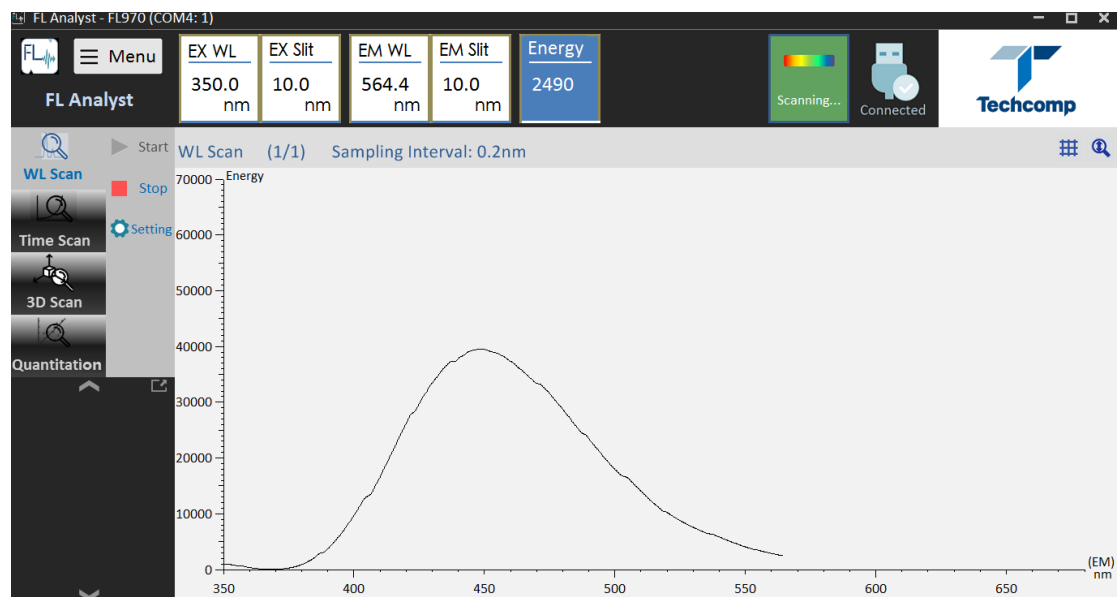

Figure 3-22 Display window of the status of clicking the “Start” button of WL Scan
1) Click “Start” button in the right toolbar of “WL Scan”, and the status bar of the instrument prompts the conversion from “Ready” to “Scanning”, as shown in Figure 3-22.